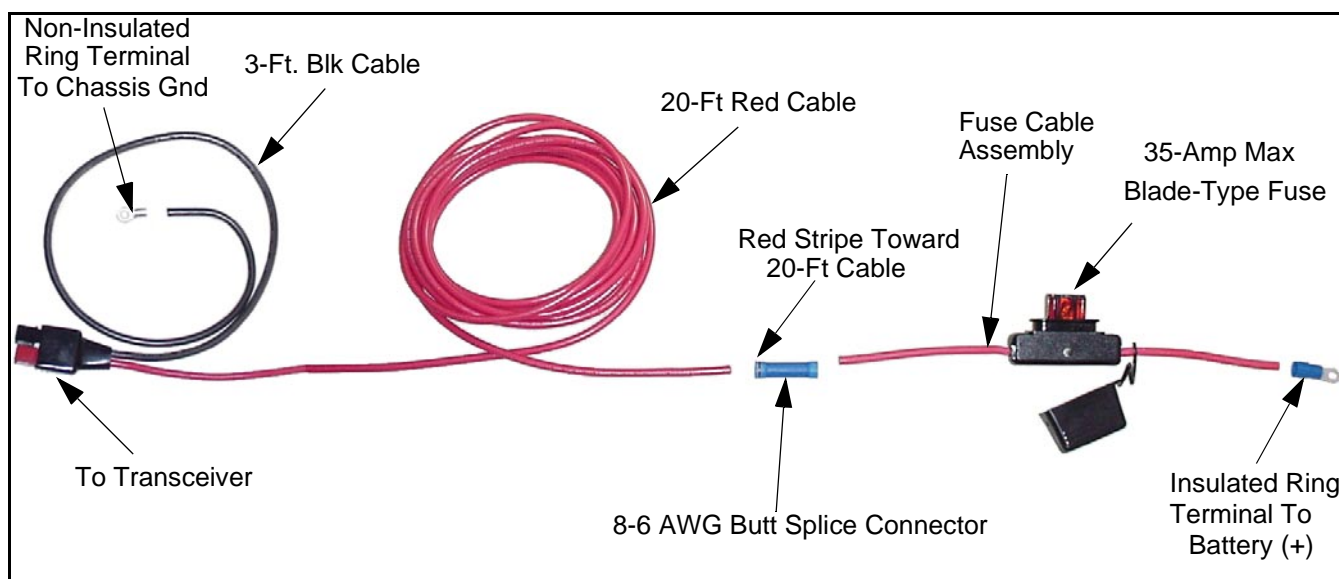

Figure 2-4 100W Transceiver Power Cable Components
Refer to Figure 2-4 and proceed as follows:
5. Connect this cable to the fuse cable using the included 8-6 AWG butt splice connector and a suitable crimping tool. Make sure that the end with the red ring is toward the transceiver cable as shown in Figure 2-4 (the power cable is 8 AWG and the fuse cable 6 AWG).